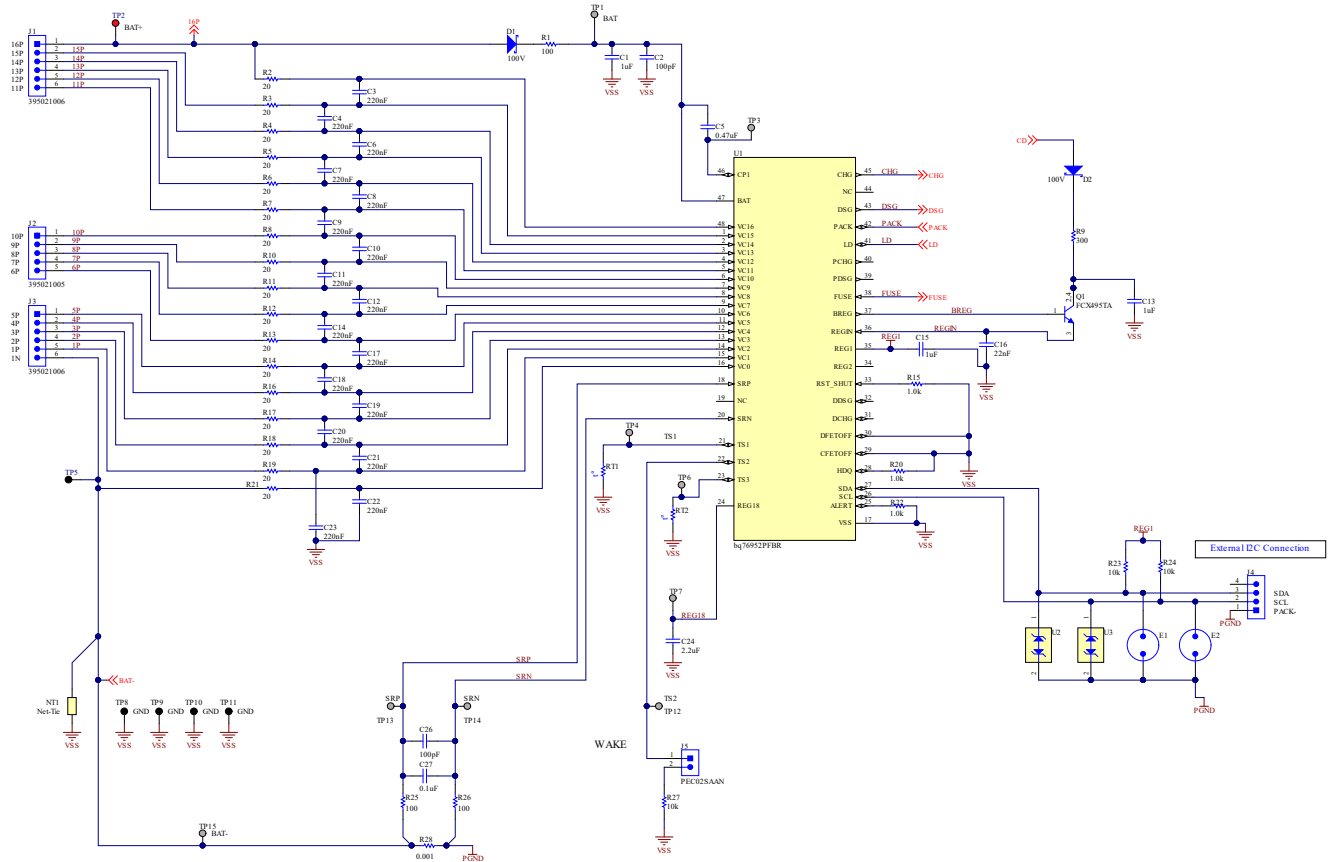

图 16-2. BQ76952 16-Series Cell Schematic Diagram—Monitor
- Power Dissipation, which can be a factor of the RDS(ON) rating of the FET, the FET package, and the PCB design.
- The overdrive level of the BQ76952 device charge pump should be selected based on RDS(ON) requirements for the protection FETs and their voltage handling requirements. If the FETs are selected with a maximum gate-to-source voltage of 15 V, then the 11 V overdrive mode within the BQ76952 device can be used. If the FETs are not specified to withstand this level, or there is a concern over gate leakage current on the FETs, the lower overdrive level of 5.5 V can be selected.
- A diode can optionally be included in the collector circuit of the BJT, in order to avoid reverse current flow from BREG through the base-collector junction of the BJT to PACK+ during a pack short circuit event. This diode can be seen in 图 16-2 at D2.